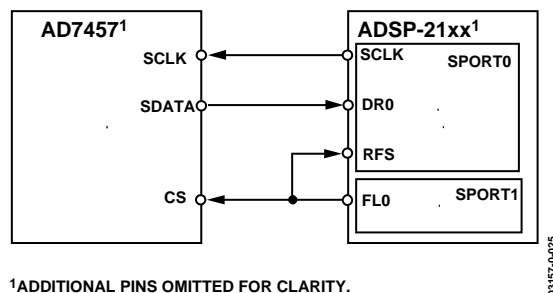

Figure 25. AD7457 to ADSP-218x
The ADSP-218x family of DSPs can be interfaced directly to the AD7457 without any glue logic. The serial clock for the ADC is provided by the DSP. SDATA from the ADC is connected to the data receive (DR) input of the serial port and \overline{CS} can be controlled by a flag (FL0). The connection diagram is shown in Figure 25.